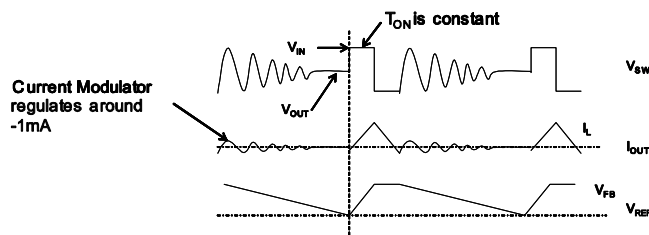

Figure 3—DCM Operation
DCM operation is shown in Figure 3. When V_{FB} is below V_{REF} , the HS-FET is turned on for a fixed interval, which is determined by the one-shot on timer. See Equation (1). When the HS-FET is turned off, the LS-FET is turned on until the inductor current reaches zero. In DCM operation, the V_{FB} does not reach V_{REF} when the inductor current is approaching zero. The LS-FET driver turns into tri-state (high Z) whenever the inductor current reaches zero. A current modulator takes over the control of the LS-FET and limits the inductor current to less than -1 mA. Hence, the output capacitors discharge slowly to GND through the LS-FET. As a result, the efficiency during a light-load condition is improved greatly. The HS-FET is not turned on as frequently during a light-load condition as it is during a heavy-load condition (skip mode).